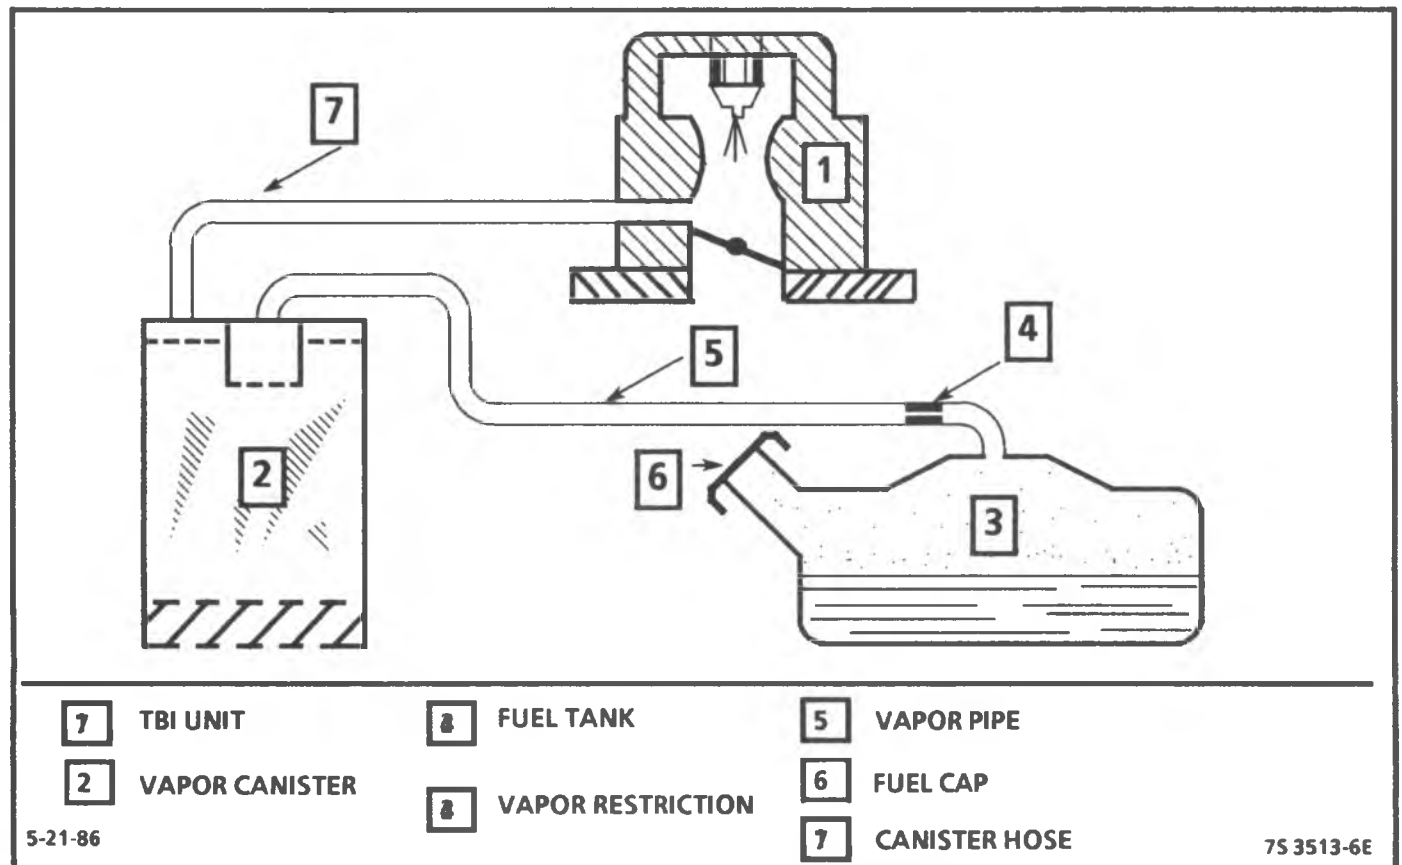

Figure 5-5 - Evaporative Emissions Control System Schematic 2.5L & 4.3L (ST)
##### Evaporative System 2.5L, 2.8L & 4.3L (ST) *Figure 5-5*